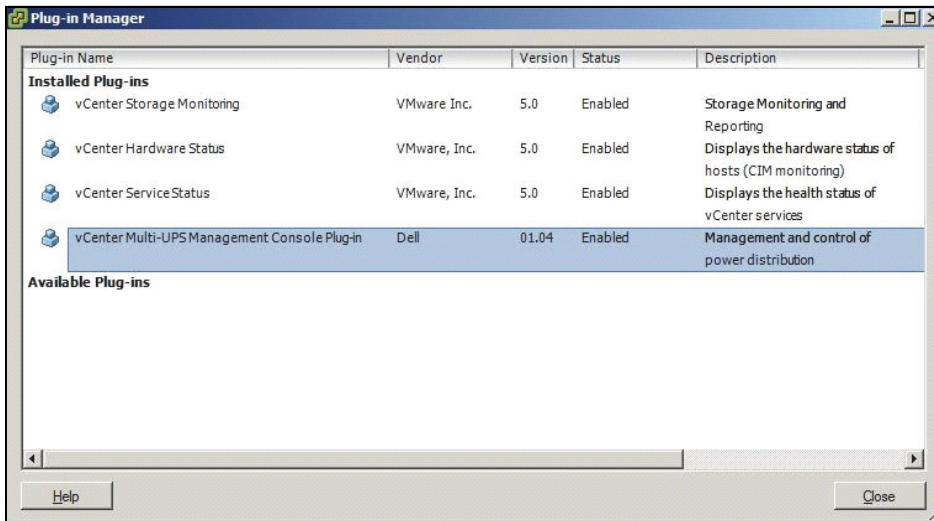

Figure 93. vCenter Plug-in Manager
- 2 Dell MUMC Plug-in for vCenter can be seen in the Plug-in Manager (see Figure 93).